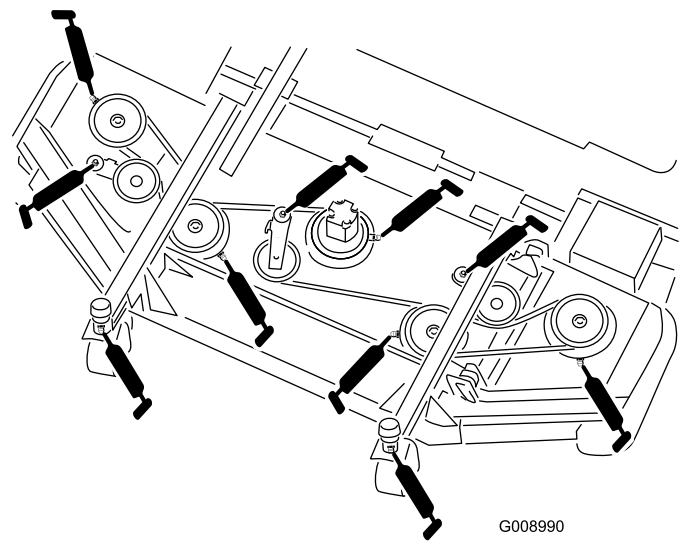

Figure 53
- Castor fork shaft bushings (2) (Figure 53)
- Spindle shaft bearings (5) (located on spindle housing) (Figure 53)
- Idler arm pivot bushings (3) (located on the idler pivot shaft) (Figure 53)